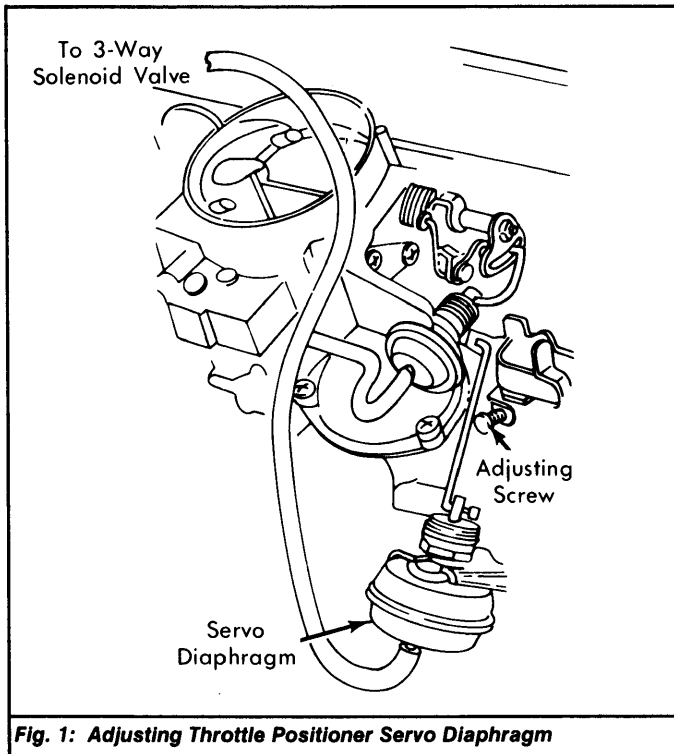

Fig. 1: Adjusting Throttle Positioner Servo Diaphragm
4) If not, adjust engine speed by turning adjusting screw on servo diaphragm throttle lever until proper speed is obtained. See Fig. 1. Reconnect all hoses to original position.